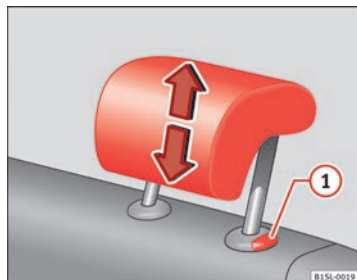

Fig. 31 Adjusting the rear head restraints
- Push the head restraint up or down in the direction of the arrow with the button pressed ⇒ Fig. 31 ① ⇒ ⚠.